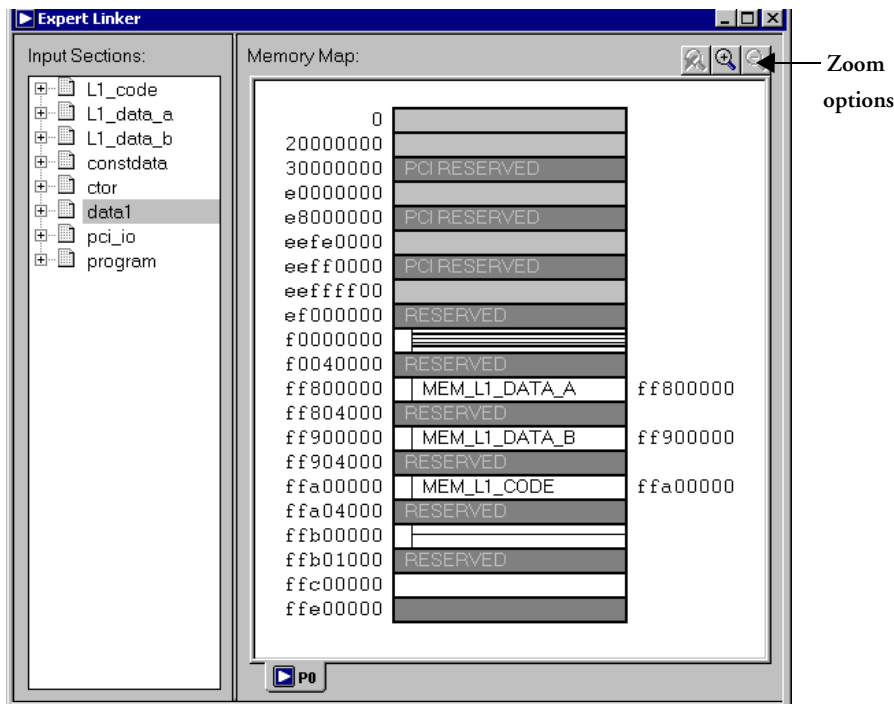

Figure 2-16. Graphical Memory Map Representation
- **Graphical Memory Map** — Displays the memory map in graphical blocks (see Figure 2-16 on page 2-24).